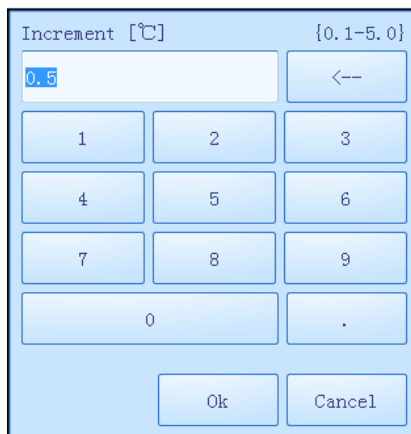

Figure E-3.8a. Step Edit Window - Melting Step Parameter Setting
► The melting stage allows the instrument system to read fluorescence signals after each temperature increment. User can press the input boxes of **Increment** to edit the temperature increment for the current melting step, as shown in figure E-3.8a.